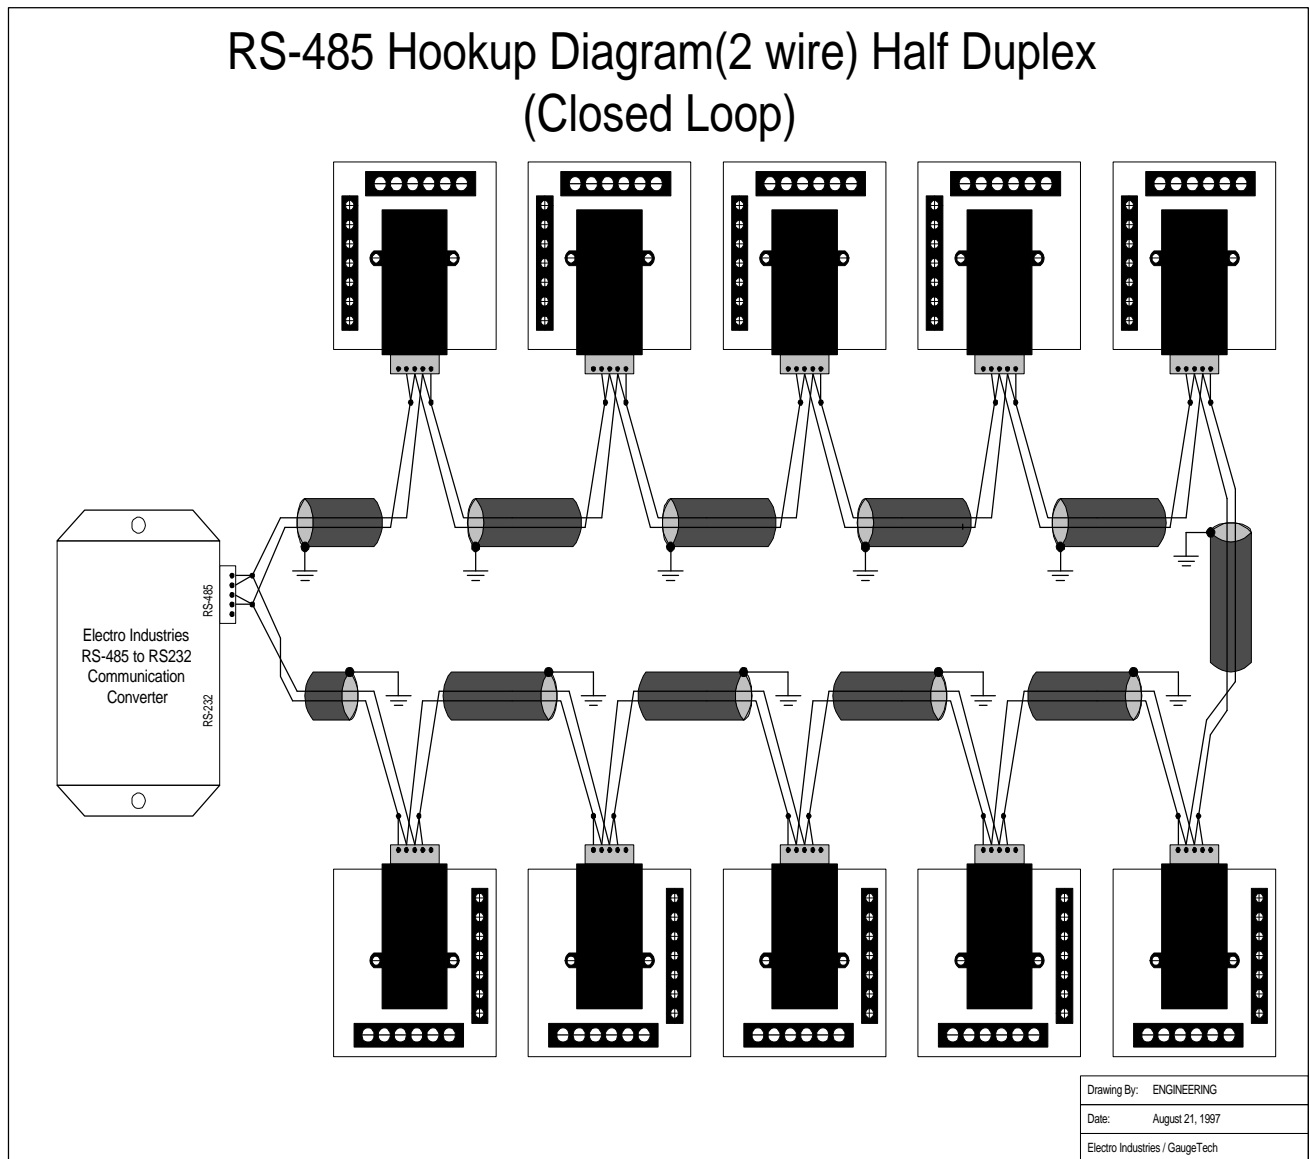

Figure 3.3 2-Wire RS-485 Communication Connection Installation Half Duplex (closed loop)
- When using all 4 wires, the link can include up to 60 instruments, (Figure 3.3).